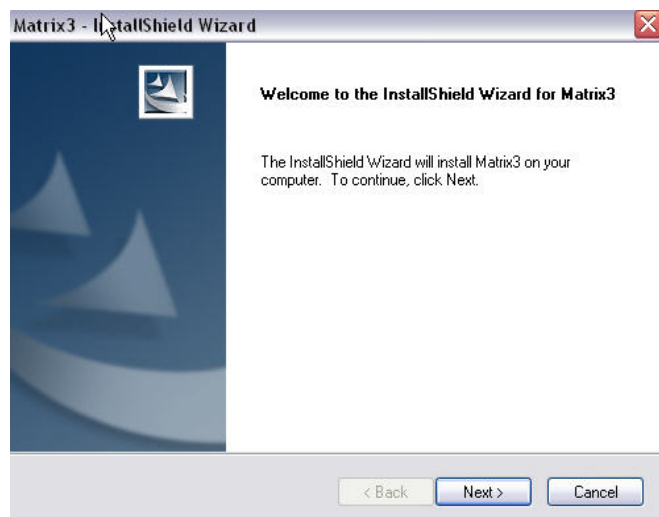

FIG. 7
7. Click NEXT to continue software installation and advance to the InstallShield Wizard for Matrix3 (FIG. 7). Click The BACK button to return to a previous installation screen or CANCEL to end the software installation.
8. Click NEXT. The InstallShield Wizard for Matrix3 begins the installation (FIG. 7).